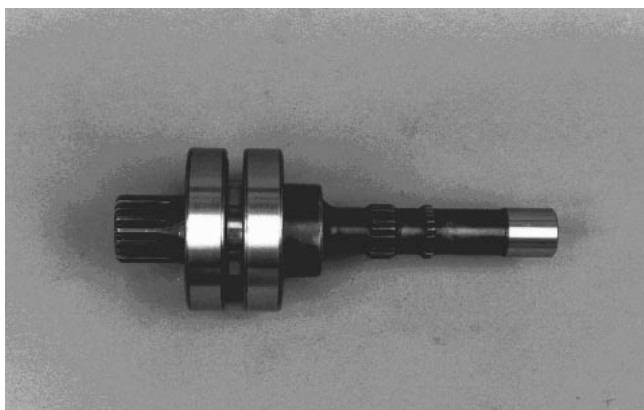

Figure 64
9. Press inner bearing, spacer and outer bearing onto motor shaft (Fig. 64).